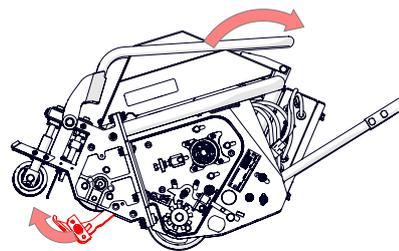

Fig. 16K - Remove shear blade assembly
11. Tip the machine back to gain access to the underside. Remove the shear blade carrier (Fig. 16K).